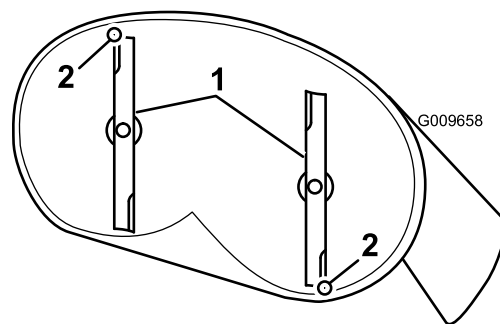
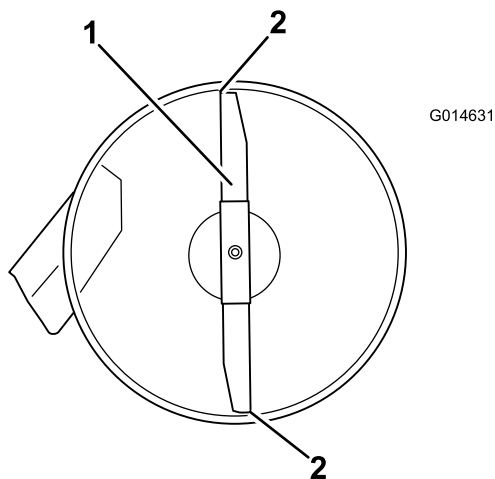
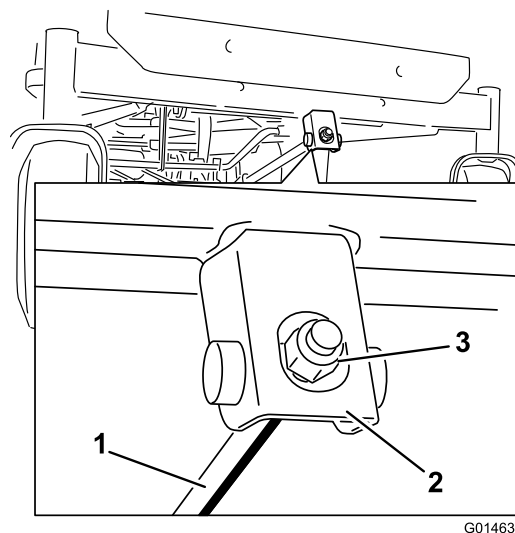

Figure 64
Figure 63
Figure 65
4. Carefully rotate the blades so they are facing front to rear (Figure 63 and Figure 64).
5. Measure from the tip of the front blade to the flat surface, and the tip of the rear blade to the flat surface (Figure 63 and Figure 64).
6. To adjust the front-to-rear blade slope, rotate the adjustment nut in the front of the mower (Figure 65).
9. After adjustment, check the front-to-rear slope again, continue adjusting the nut until the front blade tip is 1.6 to 7.9 mm (1/16 to 5/16 inch) lower than the rear blade tip (Figure 64 and Figure 65).